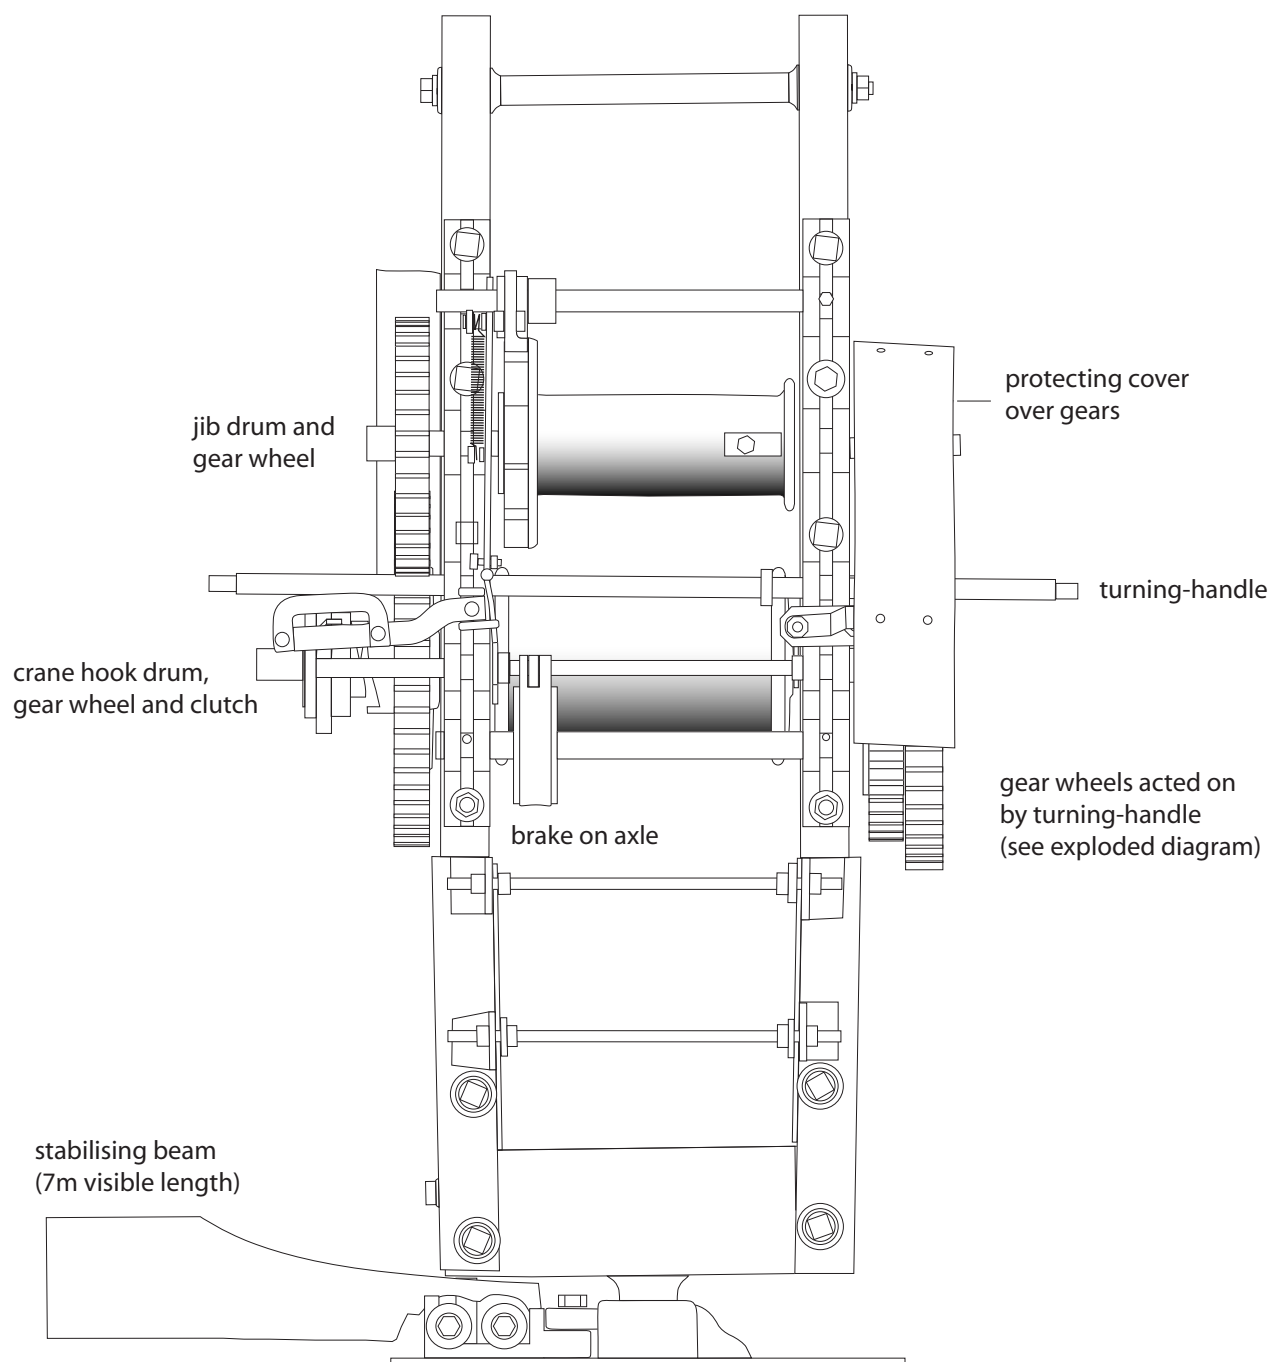

Fig. 6 Crane, left side, showing
- Fig. 6 Crane, left side, showing fixing arrangements for base of jib (scale 1:10)